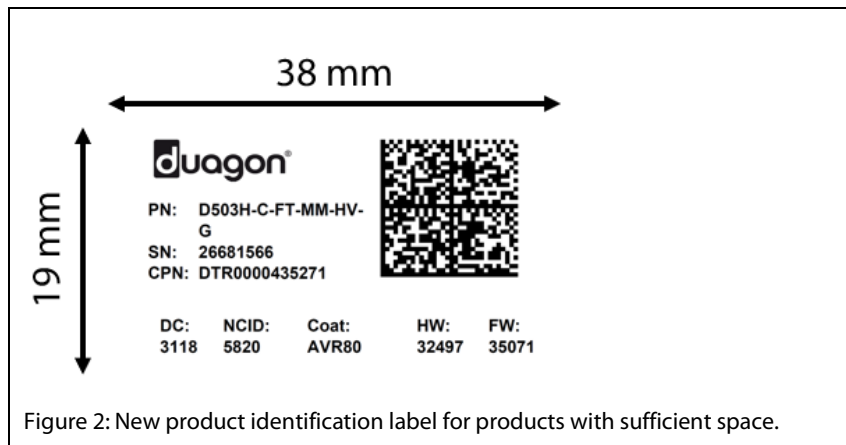

Figure 2: New product identification label for products with sufficient space.
- Product identification label for products with sufficient space e.g. D113, D215, D429, D50x etc. (see figure 2).
Please note that the small product identification label will be used as a standard for all duagon deliveries. However, customers may choose also the product identification label as shown in figure 2 for their deliveries, if sufficient space on the product is available.
All customers may add a customer product number on the duagon label. If a customer product number is not defined than the state "none" will be shown on the label (see figure 2).